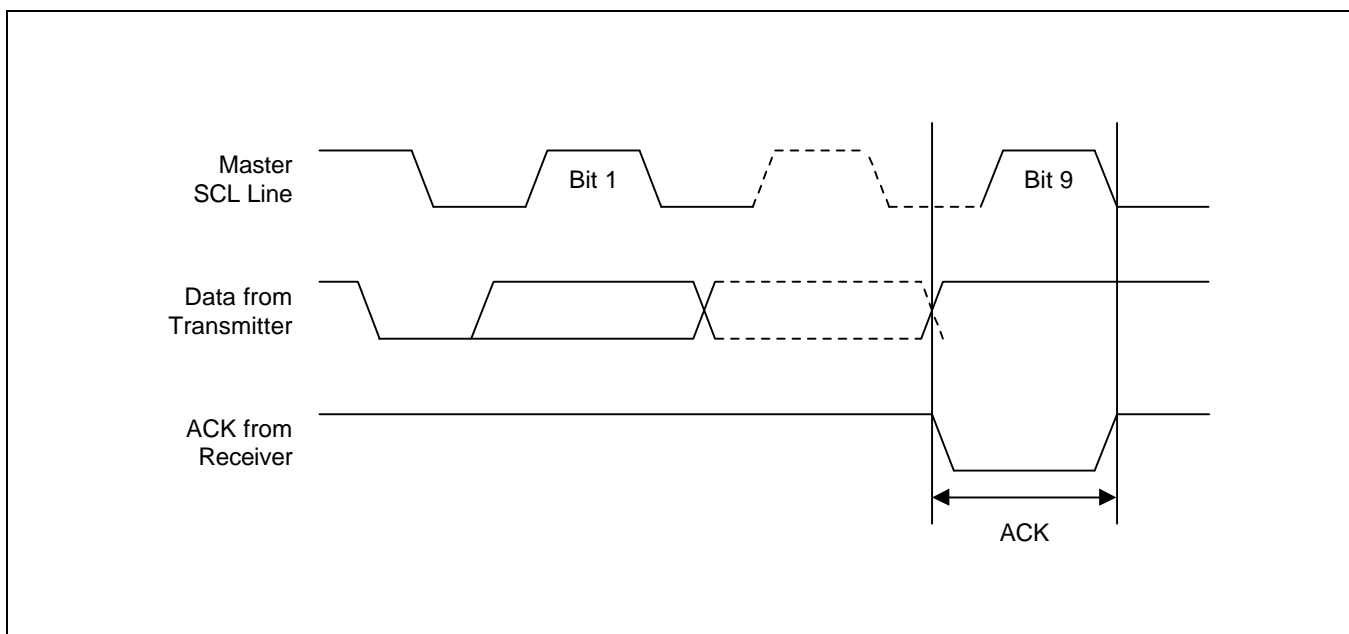

Figure 4-8. Acknowledge Response From Receiver
- **ACK (Acknowledge):** An ACK signal indicates that a data transfer is completed successfully. The transmitter (the master or the slave) releases the bus after transmitting eight bits. During the 9th clock, which the master generates, the receiver pulls the SDA line low to acknowledge that it successfully received the eight bits of data (see Figure 4-8). But the slave does not send an ACK if an internal write cycle is still in progress.